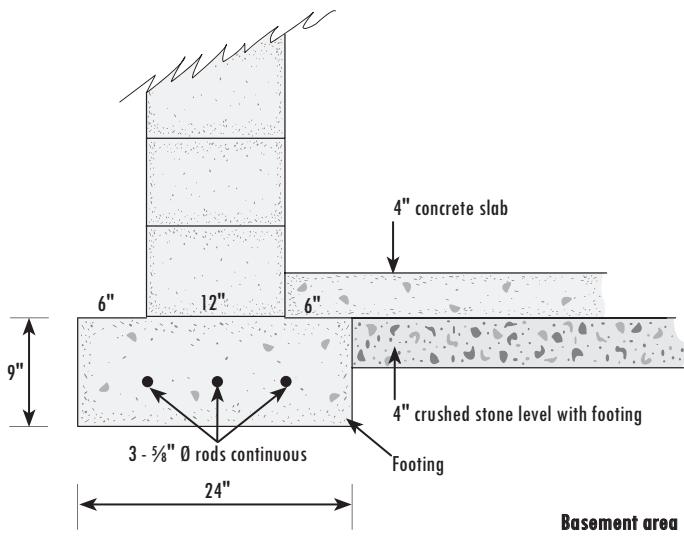

Figure 5-1
- The basement footing was formed so that when the 4 inches of crushed stone specified is added, the material will be level with the top of the footing (Figure 5-1).